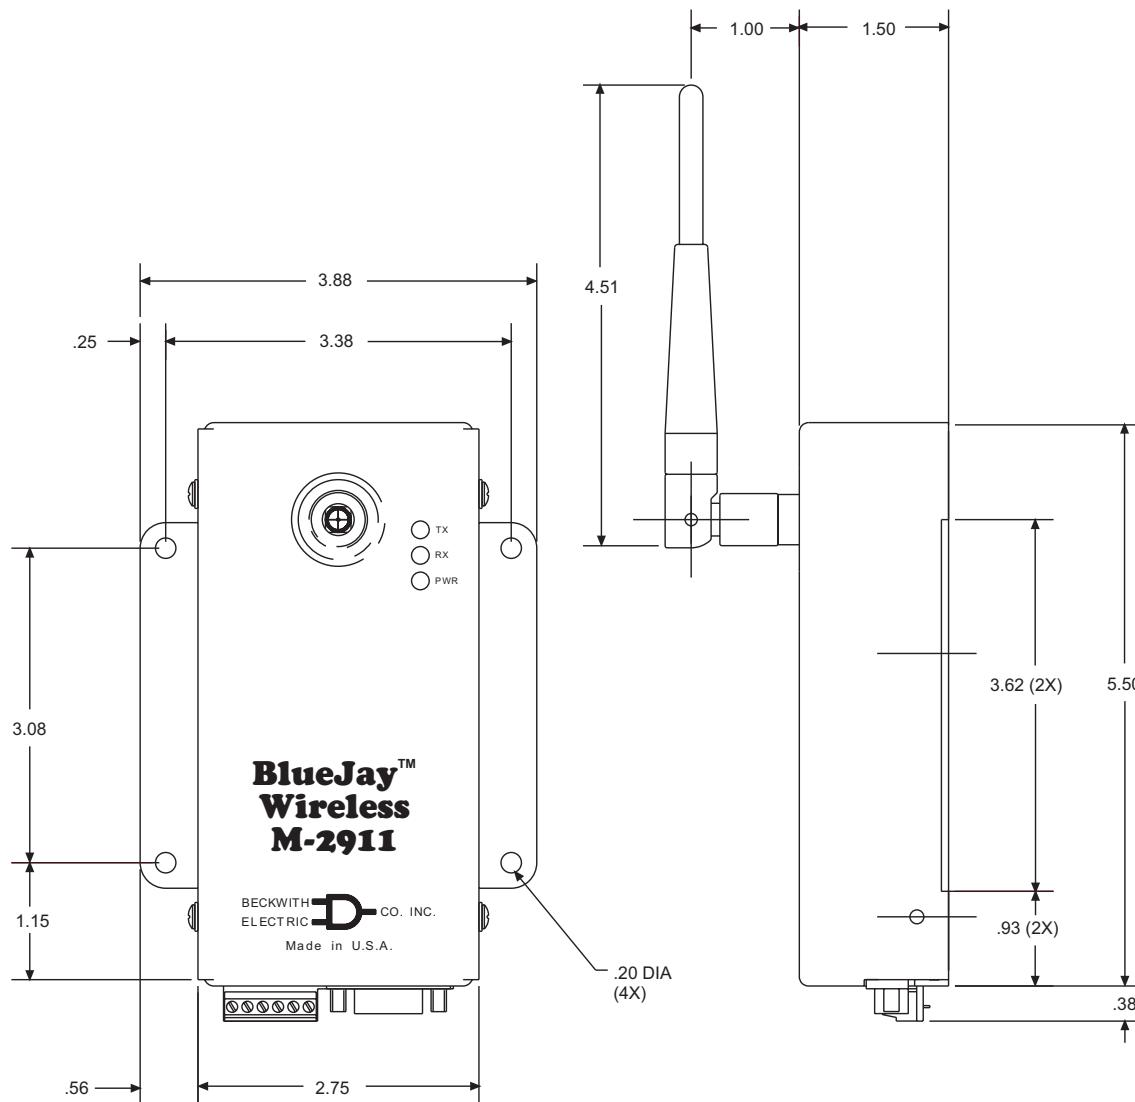

Figure 10 Outline Dimensions
**Size:** 5.88" high (with antenna 9.43") x 3.88" wide x 2.5" deep (14.58 cm (23.1) x 9.9 cm x 6.13 cm). See Figure 10 for dimensional drawing.